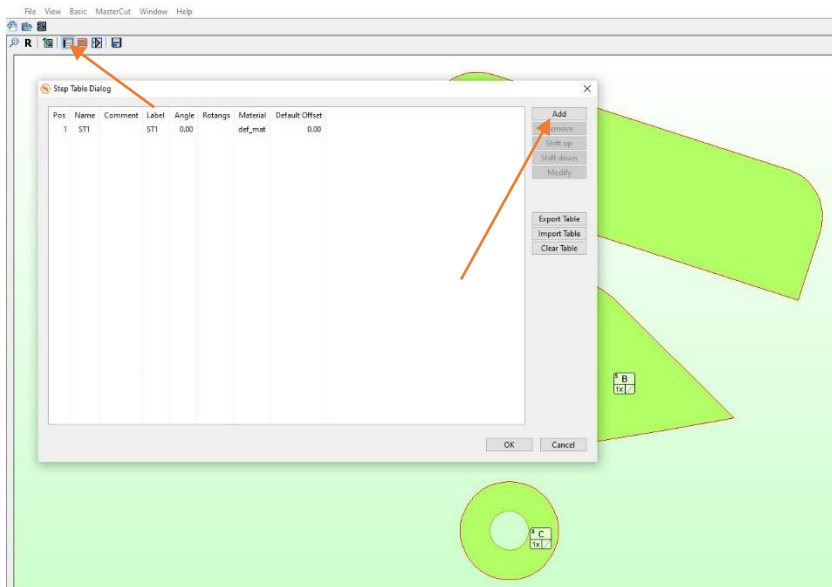

Figure 168
6. Now that you are in the Mastercut workspace. Start by setting up our master table  (Figure 168).